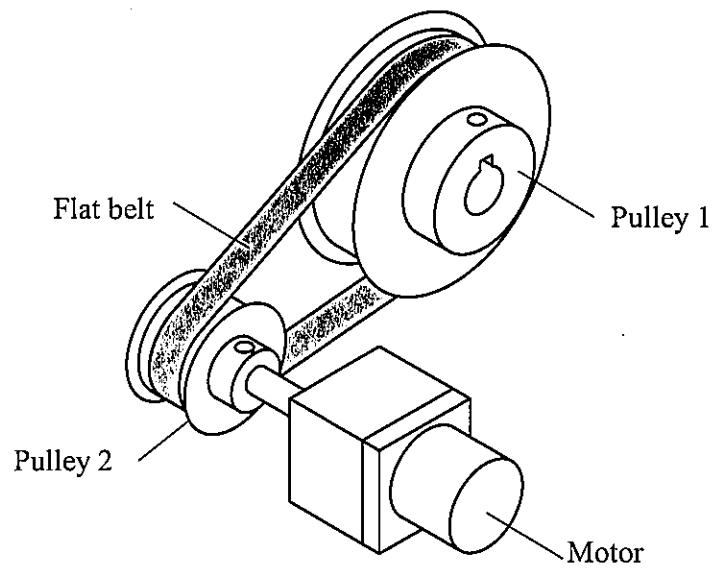
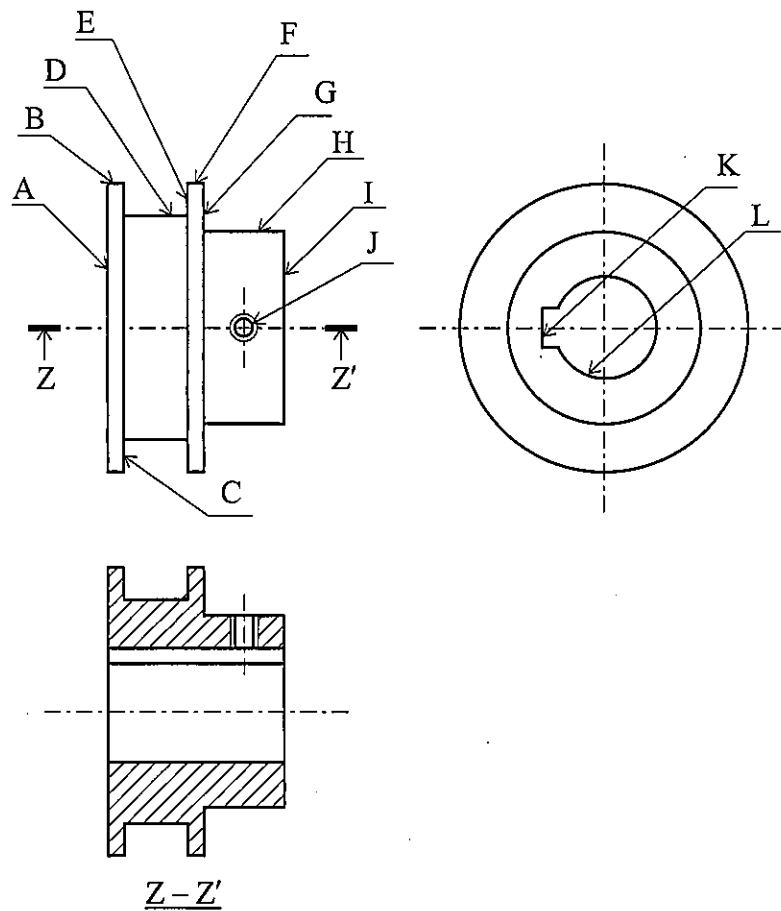

Figure 9-1
Figure 9-2
Consider a power transmission mechanism using a flat belt and pulleys shown in Figure 9-1. Answer the following questions.
- (1) A power transmission mechanism using a flat belt has a problem that slippage occurs between the belt and the pulley. Give two examples of methods that suppress the problem.
- (2) Give one application of the power transmission mechanism shown in Figure 9-1 that takes advantage of the slippage between the flat belt and the pulleys, and explain how it works in less than 60 words.
- (3) Give one example of mechanism other than that shown in Figure 9-1 that has the function of transmitting power between two different rotating shafts.
- (4) Describe three advantages and three disadvantages of the power transmission mechanism using a flat belt, compared with the mechanism given in Question (3).
- (5) When machining the pulley shown in Figure 9-2 from a round bar, describe the machining sequence for generating surfaces A to L and the timing of the set-up change. In addition, describe the machine tools and the cutting tools used for generating each surface. Here, the material of the pulley is ISO C45 (JIS S45C).
- (6) Give two examples of surface treatment methods which harden the pulley surface after machining.
- (7) Explain the mechanisms of the surface treatment methods given in Question (6) in less than 60 words for each example.